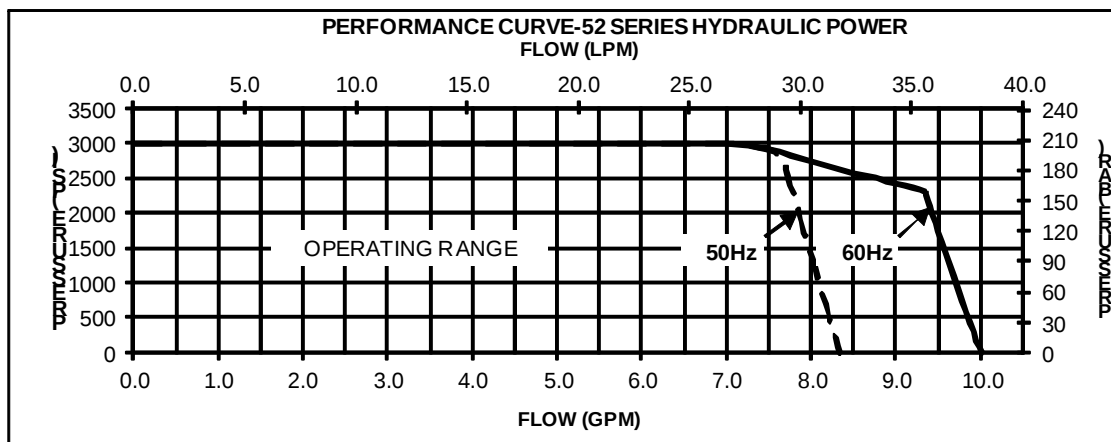

FIGURE 5.2.3 – Performance Curve (50 Hz and 60 Hz)
- Performance Curve for 50 Hz and 60 Hz..... Reference **Figure 5.2.3**